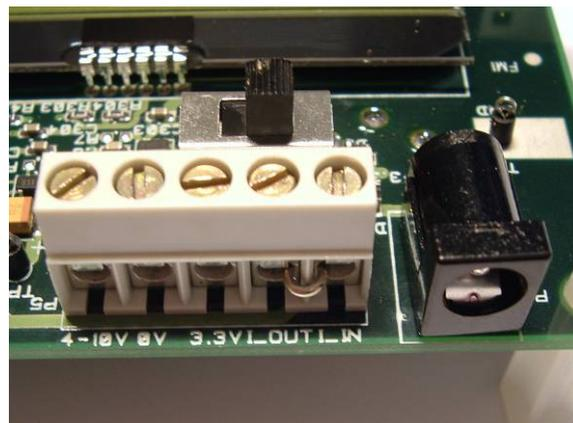

Figure 5: Power connector
- **Laboratory power supply.** Ground should be connected to the 0V terminal on the power connector (see Figure 5). A 4-10V supply can be connected to the “4-10V” terminal, or a 3.3V supply can be connected to the “3.3V” terminal. The on-board voltage regulators will be bypassed when using the “3.3V” terminal. Therefore it is important that the voltage level is within these limits: